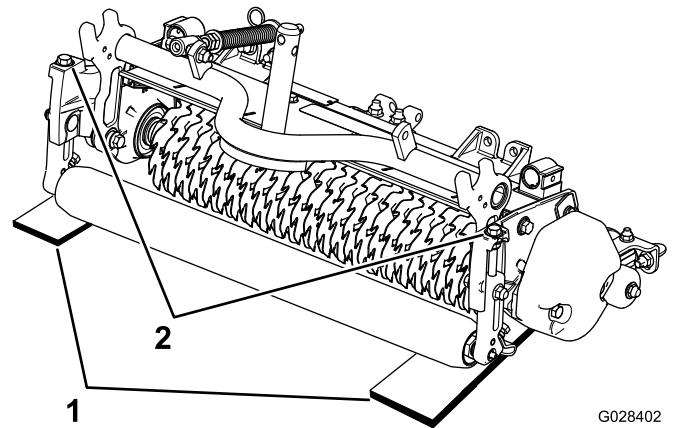

Figure 9
2. Place 2 gauge bars, which have the desired depth of blade penetration below the ground, under the front and rear rollers of the verticutter reel on each end of the reel (Figure 9).
3. Turn the adjusting bolt on each height-of-cut bracket (Figure 9) so that the reel blades come in contact with the level surface on both ends.